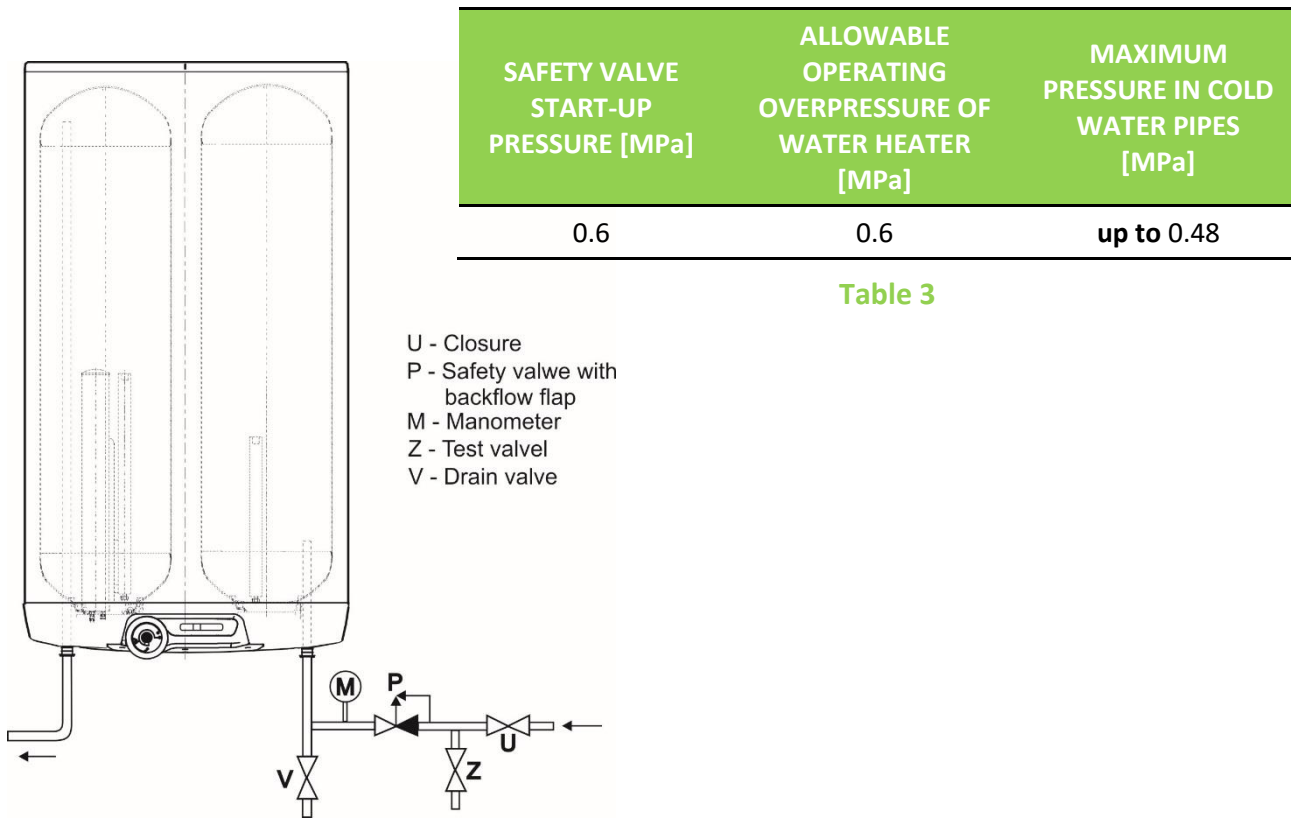

Figure 5
The heater must be equipped with a membrane, spring-loaded safety valve. Safety valves with fixed pressure settings from the manufacturer are used for the assembly. Each individually lockable heater must be fitted with a cap on the cold water inlet, a test valve or a stopper to check the operation of the check valve, with a check valve and a relief valve (Figure 5). **The safety valve with a check valve is supplied with the heater.**
**Heaters must be provided with a discharge valve** mounted on the cold service water inlet to the heater for potential disassembly or repair (Figure 5). **When assembling the security equipment, follow the standard.**